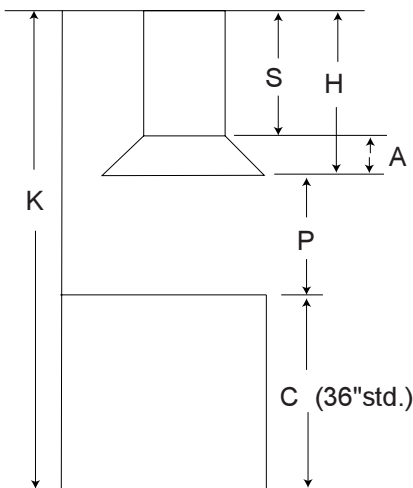

Figure 2
Hood installation height above cooktop is specified in Figure 2. Be sure that your hood model fits your installation.
Pre-Installations Calculations (see Figure 2)
1. a) Select a hood preference height P (see Figure 2) that is comfortable for the user not less than 30".
b) Calculate Hood height your installation H (see Figure 2). $H = K - C - P$.
d) Calculate Chimney structure height S (use formulas in Figure 2, and check dimensions of your hood). Save this calculation for use later in the installation.